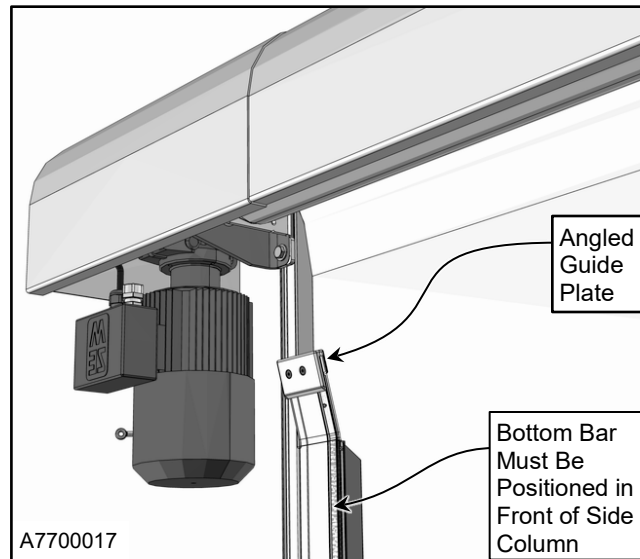

Figure 6
1. Position the breakaway tabs on one end of the bottom bar assembly in front of the side column channel. Lift the other end of the bottom bar & position the breakaway tabs inside of the side column channel. (See Figure 6)